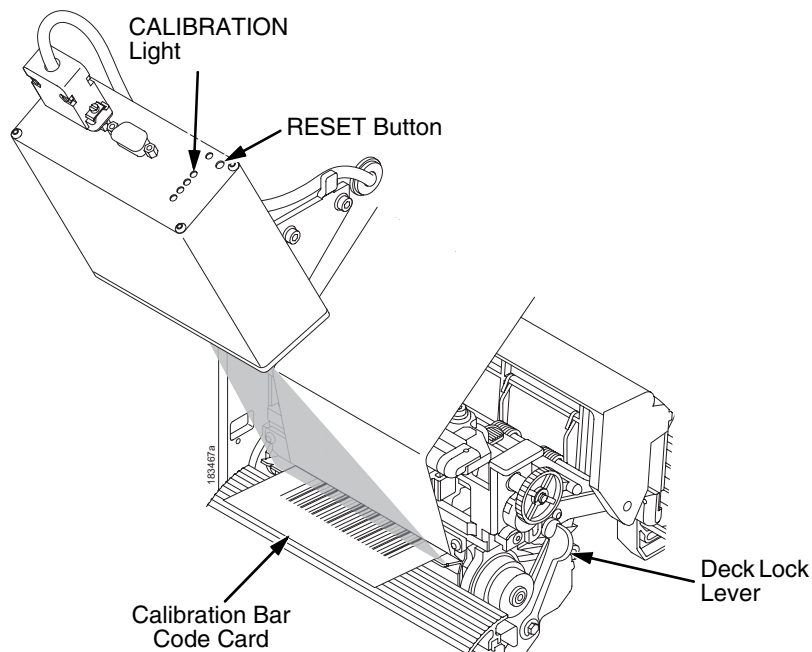

Figure 23. Calibrating the Validator
3. Remove the calibration bar code card from its protective sleeve and slide the top edge between the printhead and platen and under the scanning beam. (Figure 23.)